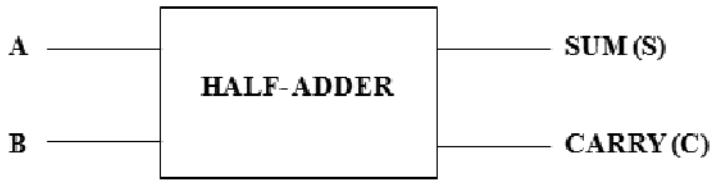

Fig10.30 Logic Symbol of Half Adder
The Figure.10.30 shows the logic symbol of a half-adder, the two inputs are designated as A and B and the two outputs are designated as sum (S) and carry (C). The half-adder performs binary addition operation for the two binary inputs as shown in the table 10.17.